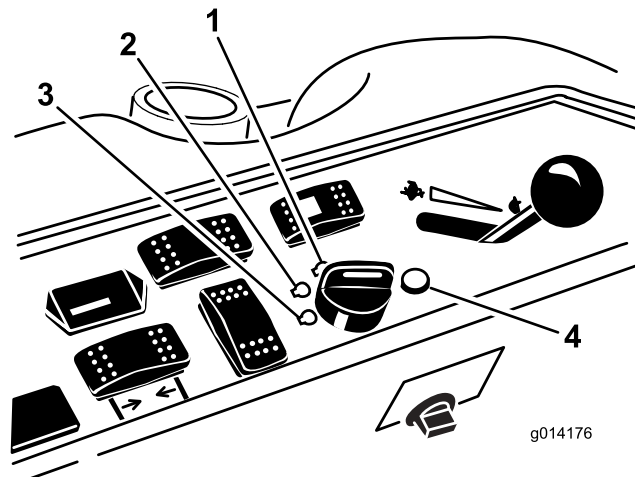

**Figure 19**
4. Move the power-takeoff (PTO) switch to the OFF position (Figure 19).
5. Move the throttle lever midway between the FAST and SLOW positions (Figure 19).